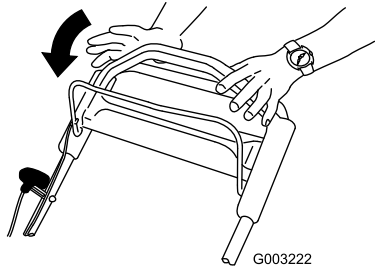

Figure 17
1. Release the blade control bar (Figure 17).